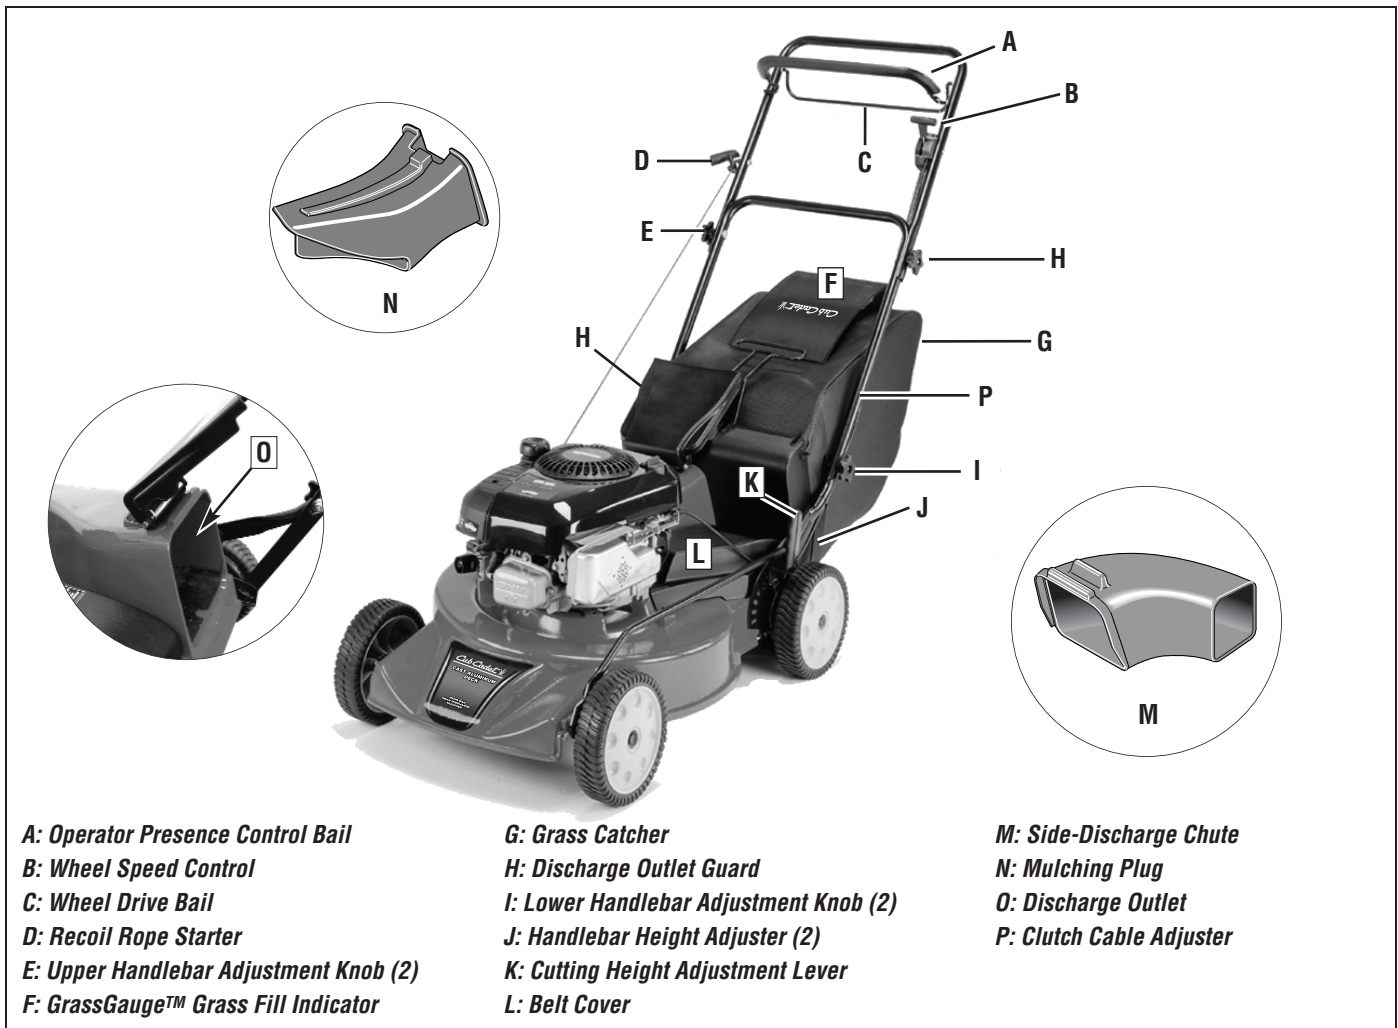

Figure 3-1
The mower is supplied with three easily changed attachments—the Grass Catcher (I, Figure 3-1), Mulching Plug (N) and Side-Discharge Chute (M)—which provide three different mowing modes. See *Setting Up Mowing Modes* in Section 4 for detailed information on how to install and use the attachments.
Use the Grass Catcher (G, Figure 3-1) to collect clippings for disposal. The bag can hold over two bushels of clippings.
The Grass Catcher is equipped with the Cub Cadet® GrassGauge™ feature (F, Figure 3-1). The GrassGauge feature is a grass fill indicator that provides a visual alert when the bag is full. See *Bagging Mode* in Section 4 for detailed information.
Use the Side-Discharge Chute (M, Figure 3-1) to direct grass clippings out the left side (from operator's position) of the mower. See *Side-Discharge Mode* in Section 4.
Use the Mulching Plug (N, Figure 3-1) to mulch lawn clippings. See *Mulching Mode* in Section 4.
The Operator Presence Control Bail (A, Figure 3-1) must be pulled back against the handlebar and held there while starting the engine and operating the unit. Releasing the bail will shut off the engine and stop the mower blade. The engine will not restart unless the bail is pulled back against the handlebar.
The Wheel Drive Bail (C, Figure 3-1) engages the powered rear wheels when it is pulled up against the handlebar, and disengages the wheels when released. See *Mowing and Turning the Mower* in Section 4 for more information.
The Wheel Speed Control (B, Figure 3-1) provides three different wheel speeds. Selections are:
This control (K, Figure 3-1) provides six cutting heights, enabling you to choose the most appropriate height for the lawn condition. Cutting heights range from approximately 1-1/4-inches to 4 inches. See *Preparation for Mowing* in Section 4 for more information.
The recoil rope start (D, Figure 3-1) is used to pull-start the engine. See the Engine Owner's Manual for starting information specific to your engine. Also see *Starting the Engine* in Section 4.
The mower provides three handlebar height settings (J, Figure 3-1). See *Step 5: Adjust Handlebar Height* in Section 2.